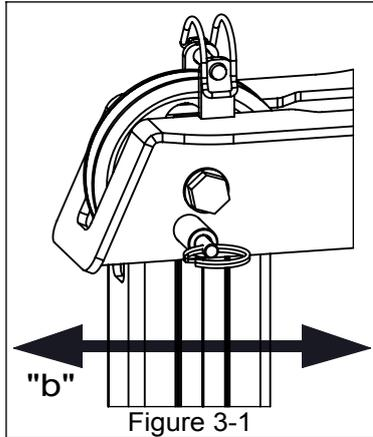

Figure 3-1
- Figure 3-1 - UNLOCKED POSITION - Legs are not fully opened. Locking finger extend from the body. Possibility of angular leg move.